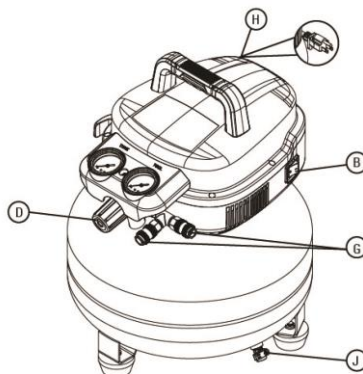
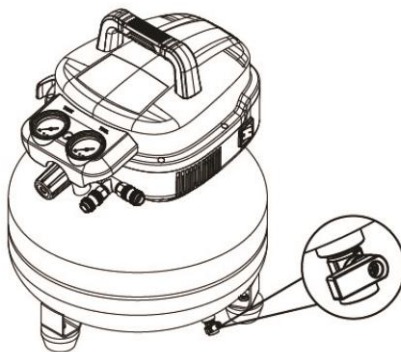

Figure 3
Figure 4
1. Set the ON/OFF switch (B) to the 0 (off) position (Figure 3).
2. Turn the air pressure regulator knob (D) counter clockwise until it stops
3. Attach air hose/accessories or air tools (not included) to the air line outlet (G)
HOW TO START UP (Figure 3 & Figure 4)